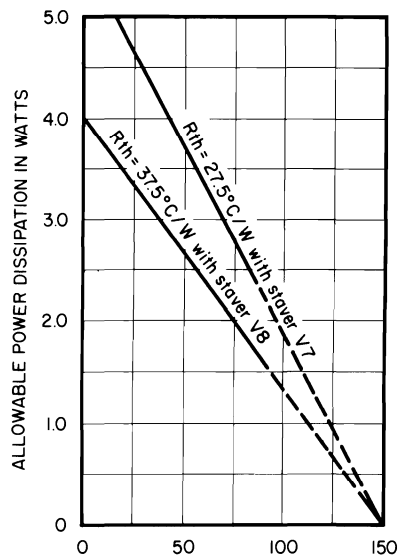
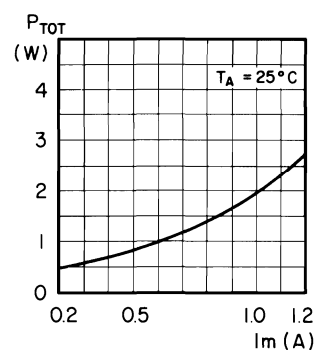
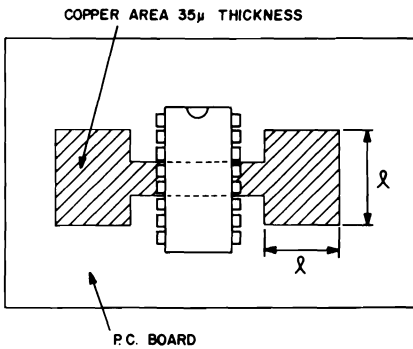
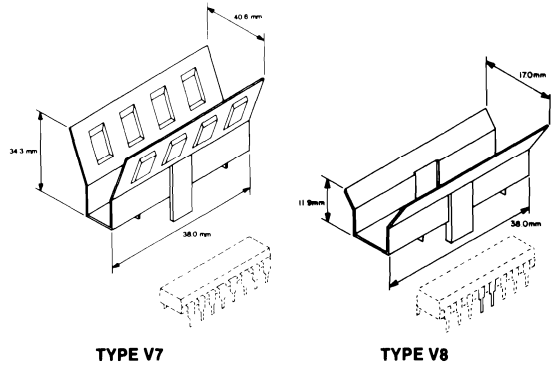

Fig. 3 Ambient temperature in °C.
Fig. 6 Typical power losses vs output current.
Fig. 7 Example Of P.C. Board Copper Area Which is Used As Heatsink.
Fig. 8 External Heatsink Mounting Example
* Depends upon heat sink (see Fig. 3 & Fig. 9)
The θ_{ja} of the CS-3770 can be reduced by soldering the GND-pins to a suitable copper area on the printed circuit board (see fig. 7) or by applying an external heatsink Staver type V7 or V8 (see fig. 8). The diagram in figure 3 shows the maximum permissible power dissipation versus the ambient temperature in °C, for heatsinkers of the type V7, V8 or fig. 7 for a 20 cm² copper area respectively. Any external heatsink or printed circuit board copper area must be connected to electrical ground. For motor currents higher than 1000 mA heatsinking is recommended to assure optimal reliability.
The diagrams in fig. 3 and fig. 6 can be used to determine the required heatsinking of the circuit. In some systems forced air cooling may be available to reduce the temperature rise of the circuit.
The diagram of fig. 9 shows the maximum dissippable power P_{tot} and the $R_{th\ j-amb}$ as a function of the side "λ" of two equal square copper areas having a thickness of 35μ (see fig. 7). In addition, it is possible to use an external heatsink (see fig. 8). During soldering the pins temperature must not exceed 260°C and the soldering time must not be longer than 12 seconds.